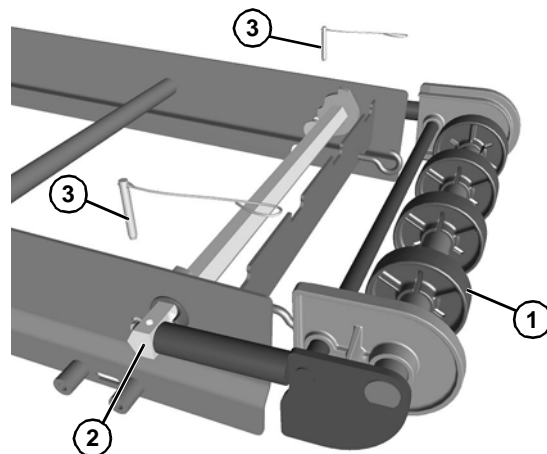

Figure 16
- Place the idler tail assembly (**Figure 16, item 1**) against the holes in the tip up hex shaft assembly (**Figure 16, item 2**) and secure with a pull pin (**Figure 16, item 3**) on each side.